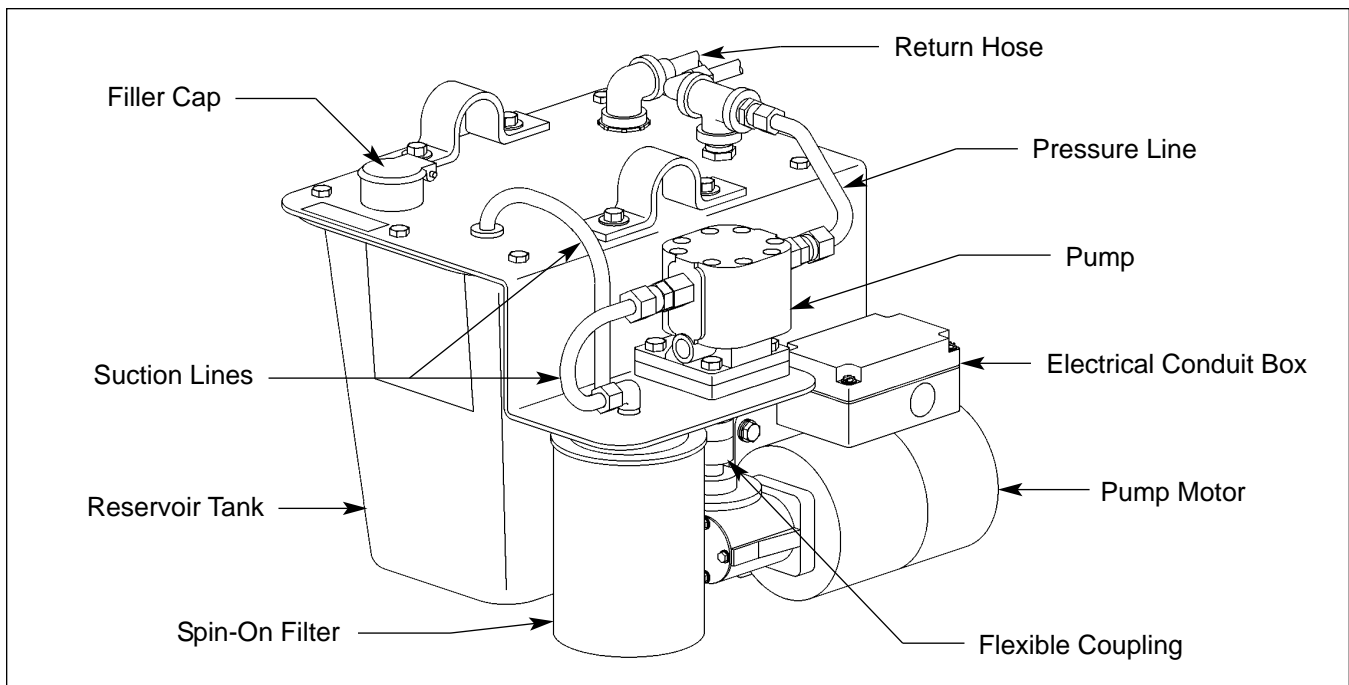

Figure 1D. Model 101 OBI/OBS lube unit.
To fill the Model 101 OBI/OBS Series press lube reservoir, first turn OFF electrical power to the press. Then open the filler cap on the top of the lube unit reservoir (See Figure 1D, page D-3) and pour in Lubricant No. 1, as necessary, until the oil level is approximately 1.50" (38 mm) from the top of the reservoir. **DO NOT OVER FILL.** Close the filler cap after the oil is at the recommended level.
The recirculating oil lubrication system on Model 101 OBI/OBS Series presses is equipped with a 25 micron filter on the lubrication unit. (See Figure 1D.) Replace the filter with a new 25 micron filter of the same type after every six (6) months or 1300 hours of operation.